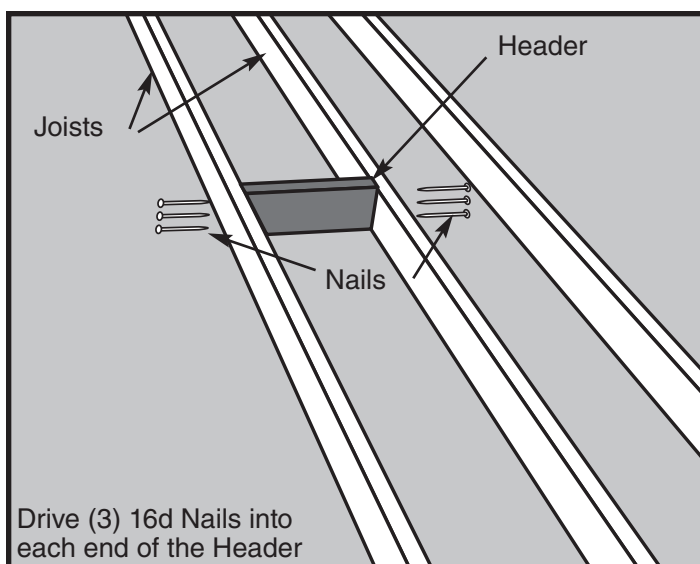

Figure 12
- STEP 3.** Place one of these headers at one end of your chosen location (See Figure 12). The header must fit snugly between the joists. Hammer it into position if necessary; if it is more than 1/16" too long, trim it. If it is more than 1/16" too short, cut another piece.
- STEP 4.** Square the header to one joist and drive (3) 16d nails through the joist and into the header. Check for squareness and drive (3) 16d nails through the other joist and into the header (See Figure 12). **It is very important that header board is vertically plumb as well as horizontally square to side joists.**